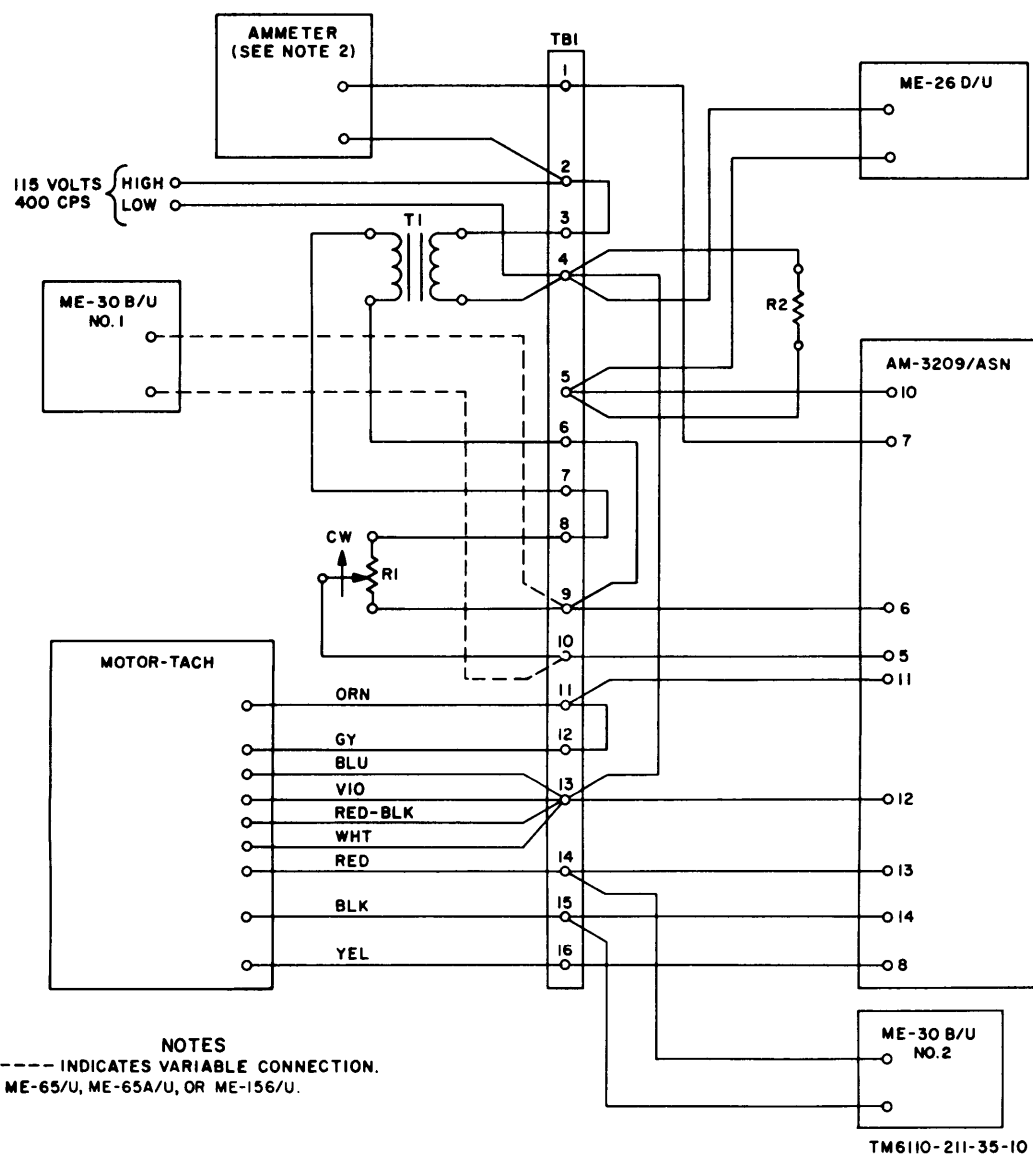

Figure 4-2. AM-3209/ASN test setup.
a. Test Setup. Connect the AM-3209/ASN to the test setup as shown in figure 4-2. During the following tests, the ammeter shall be monitored to insure that the line current does not exceed 210 ma.